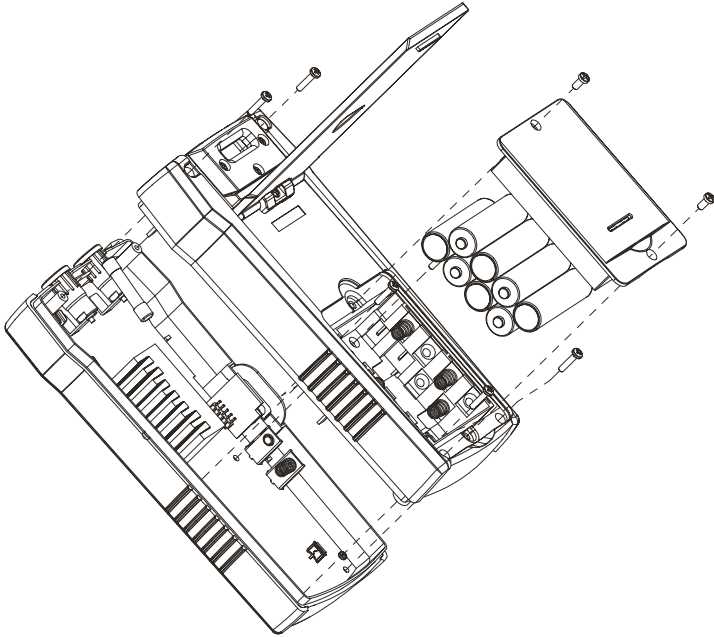

Figure 5.0c: Transmitter fuse replacement
6. Remove the back cover by pulling it upwards as shown in figure 5.0c.